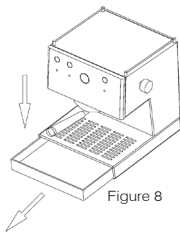

Figure 8
- Remove and clean the tray from time to time (figure 8).